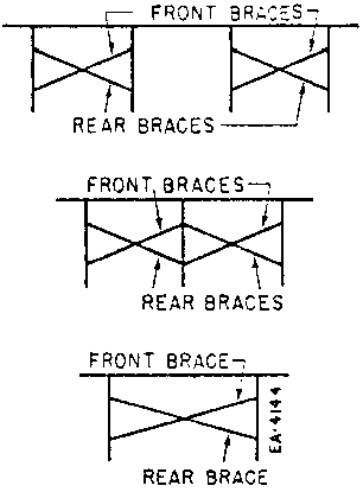

Fig. 2 Sketch showing position of braces for single tier racks.
c. The first step in assembly of the rack is to set up the steel frames and bolt the braces to the respective frames as in Figs. 2 or 3. (For racks having four frames, observe that there is no bracing between the two central frames, which establishes the spacing ordinarily. For these, after bolting the twin sets of frames together, put four marks on floor, equally spaced and corresponding to space between frames of one of the sets bolted together, so that the twin sets when bolted together and placed on floor marks can be centrally located with regard to the rail length, and with all the frames uniformly spaced.)